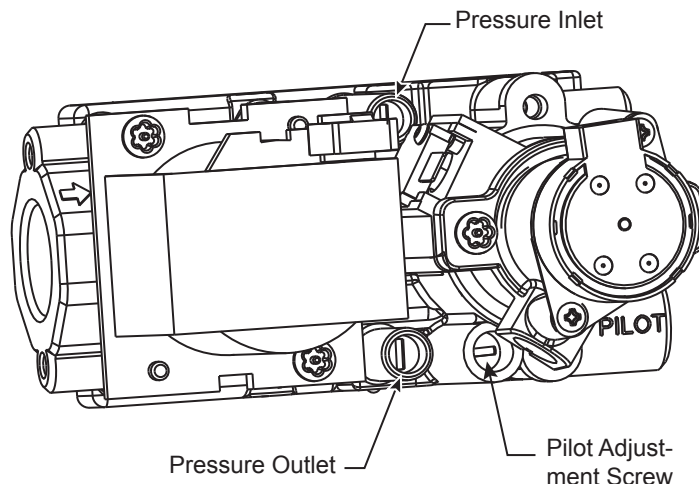

Figure 51 - Signature Command Valve
4. To check gas pressures at valve, turn captured screw counter clockwise 2 or 3 turns and then place tubing to pressure gauge over test point. Turn unit to high. *Figure 51*. After taking pressure reading, be sure and turn captured screw clockwise firmly to reseal. Do not over torque. Check test points for gas leaks.